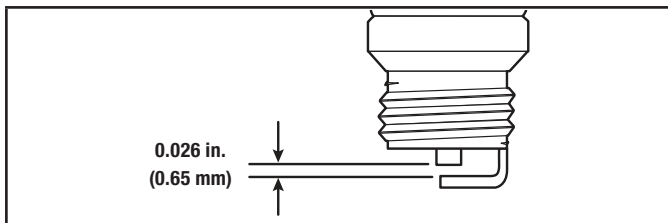

Figure 45
7. Use a feeler gauge to set the air gap at 0.026 in. (0.65 mm) (Fig. 45).